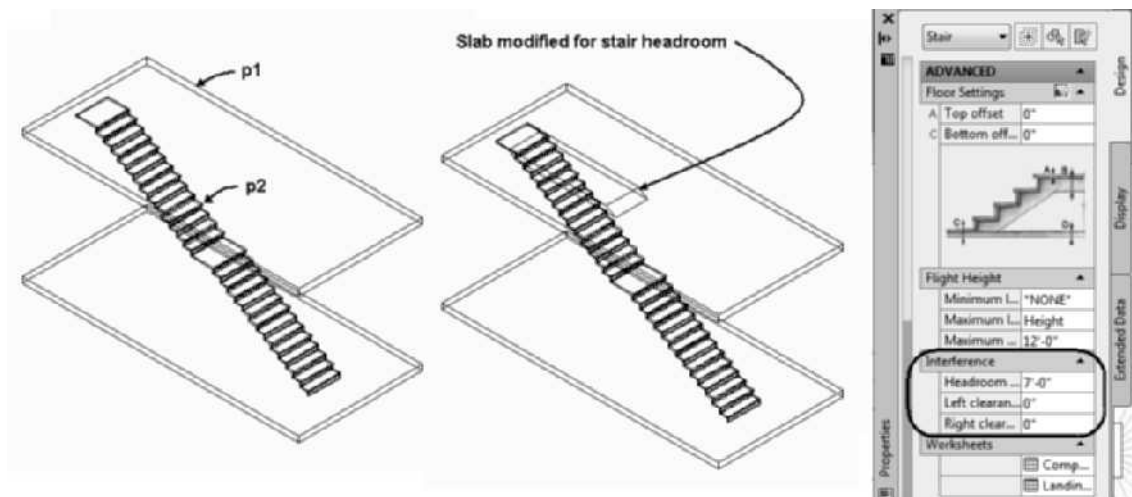

FIGURE 9.7 Slab and wall cut using Headroom and Side Clearance
23. Select from the Maximum limit type = Height option as shown in Figure 9.7. Edit the Maximum height to **12' [3000]**, to add a landing to the stair in compliance with the maximum height.
24. Choose **SW Isometric** from the View Cube to view the intermediate landing as shown in Figure 9.7.
27. Press Escape. Choose the slab at p1 as shown in Figure 9.7. Choose Add from the Interference Condition flyout of the Modify panel in the Slab tab. Respond to the workspace prompts as follows:
Select objects to add: (Select the stair at p2 as shown in Figure 9.7.) 1 found
Press Escape to end selection and view the slab modification as shown at right in Figure 9.7.